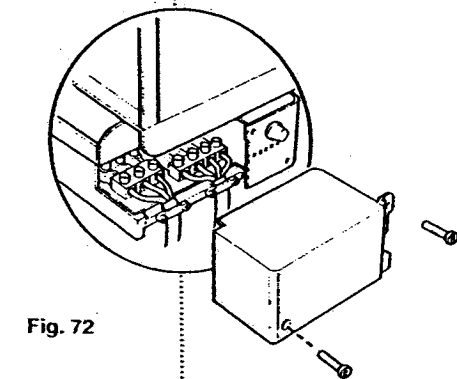

Fig. 73
7. Clamp the cables in the grips provided. Ensure that the lengths of the supply cables are such that the current carrying wires become taut before the earth wires if the cable should pull out of the cable clamp (Fig. 73).